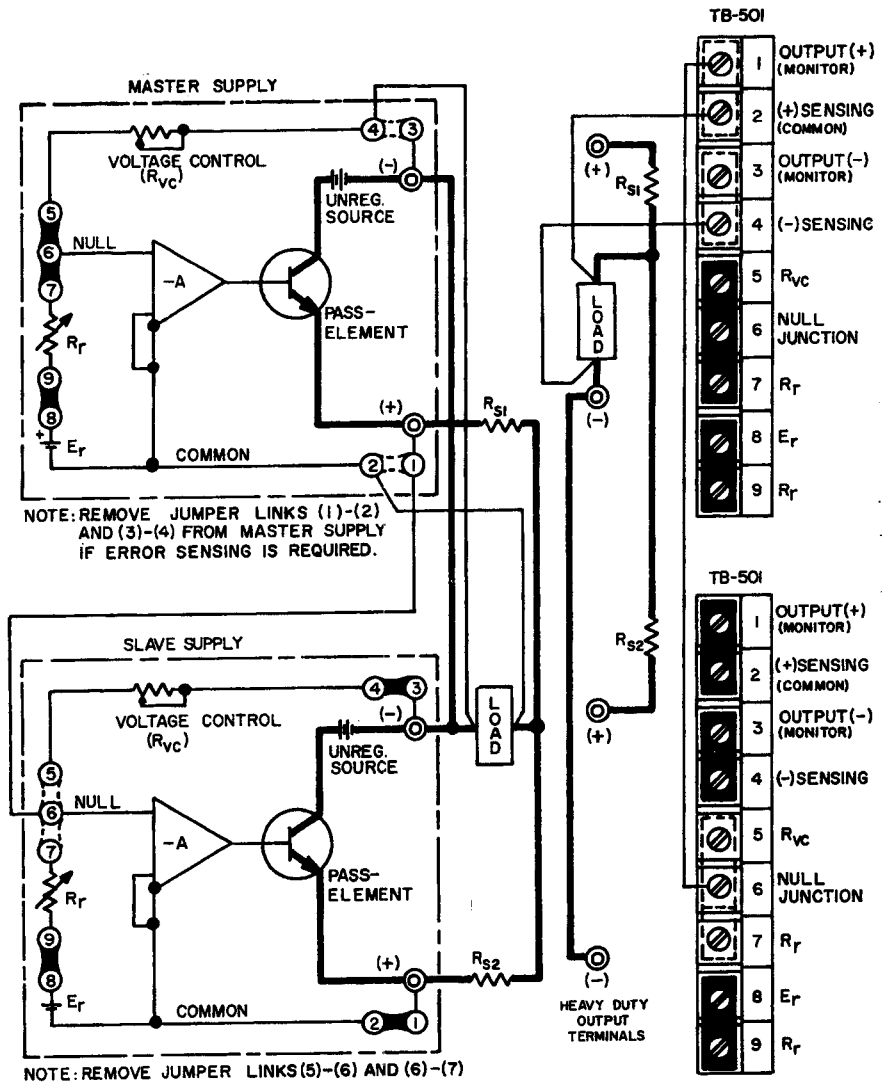

FIG. 3-14 MASTER SLAVE PARALLEL CONNECTION OF KEPKO POWER SUPPLIES
3-45 **MASTER/SLAVE PARALLEL CONNECTION.** Two power supplies are shown in FIG. 3-14, although more can be paralleled, each unit requiring its own sampling resistor. The sampling resistors (R_{s1} , R_{s2} in FIG. 3-14) are of equal value and are selected such that the voltage drop across them (due to the output current), plus the voltage drop in the load connection leads does never exceed 0.5 volts. If the voltage drop across the load connecting leads alone is at least 0.1 volt, the sensing resistors can be deleted since the leads provide the necessary sample voltage. For equal current sharing, however, the lead *length* and *diameter* should be the same for both power supplies. Output control is exercised from the "Master" supply.
3-46 **PROCEDURE FOR "MASTER/SLAVE" PARALLEL OPERATION** (See FIG. 3-14)
- 2) Make all load and sensing connections as shown in FIG. 3-14. The error sensing connections may be deleted if the minor voltage drop across the load wires (which subtracts from the available compliance voltage) can be tolerated.